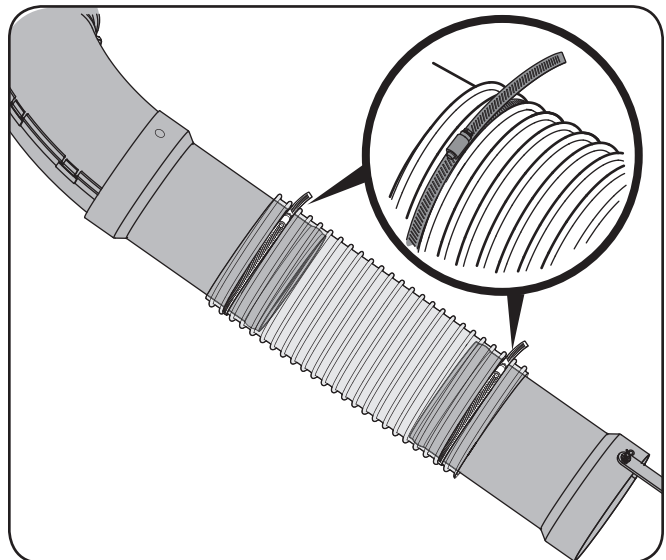

Figure 4-23
7. Install both hose clamps onto each end of the flexible hose extension as shown in Figure 4-23, positioning them over the wide adhesive rubber strips previously installed on each extension tube.
Note: Orientate the hose clamps so that they align over the two wide adhesive rubber strips previously installed and the excess from the clamps points downward as shown in the inset of Figure 4-23.